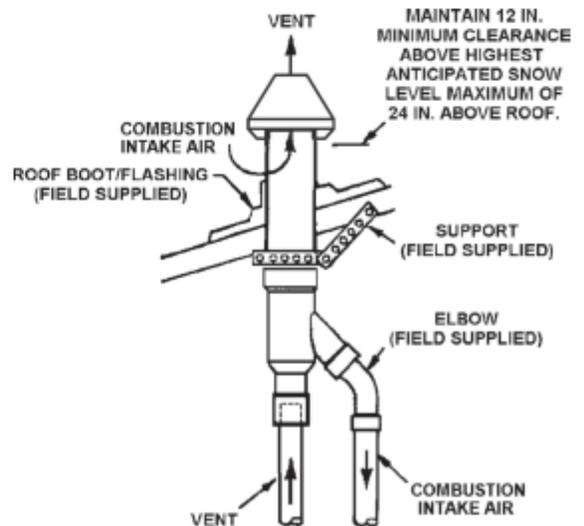

Figure 28
- Secure assembly to roof structure as shown in Figure 28 using field supplied metal strapping or equivalent support material.
NOTE: Ensure termination height is above the roof surface or anticipated snow level as shown in Figure 28.
- Cement water heater combustion air intake and vent pipes to concentric vent termination assembly. See Figure 28 for proper pipe attachment.